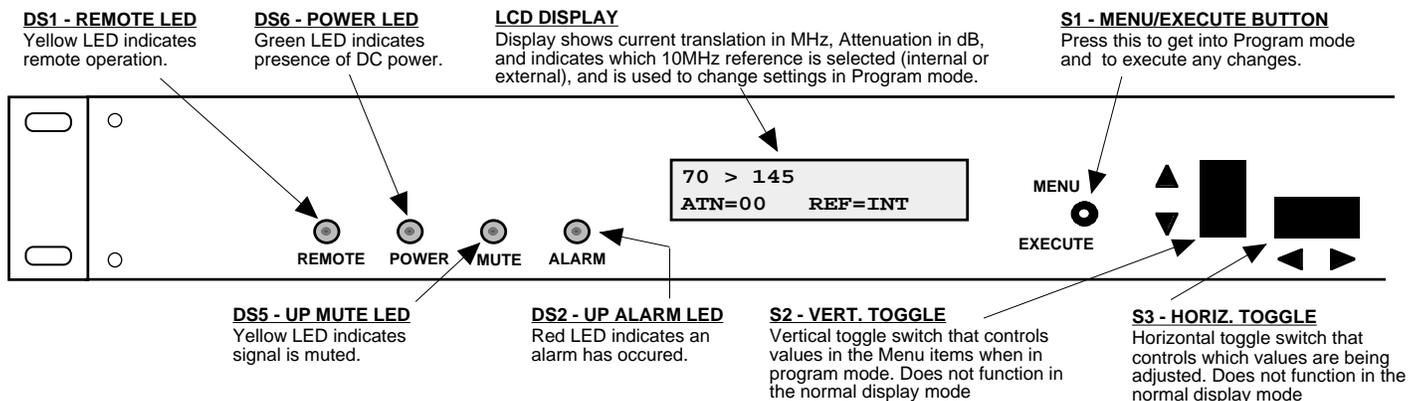

FIGURE 2.2 2083-714A Front Panel Controls and Indicators
8. Be sure DS6 (green, POWER) is on and DS2 (red, ALARM) is off (Figure 2.2).
Alarm indications appear on the LEDs (see figure 2.2).